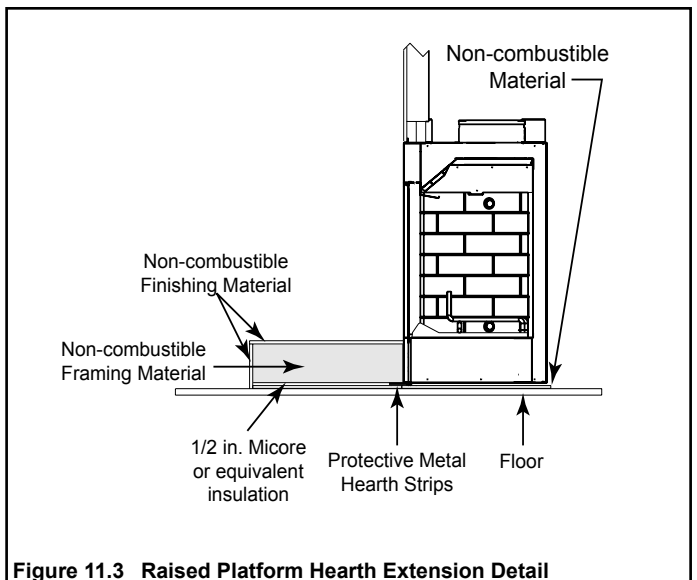

Figure 11.3 Raised Platform Hearth Extension Detail
**WARNING! Risk of Fire.** A raised hearth extension built flush with the fireplace opening (Figure 11.3) or less than 4 in. (102 mm) below the fireplace opening requires the fireplace be installed on a non-combustible surface.